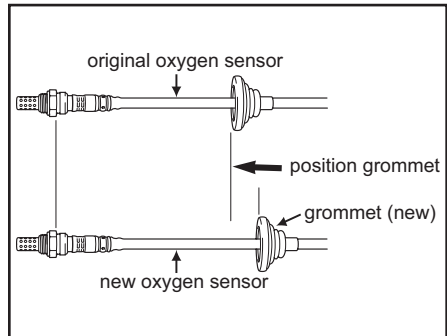

Fig. 1
- Starting at the sensor end, compare and position the new oxygen sensor grommet in the same location as the original oxygen sensor grommet (See Fig. 1).